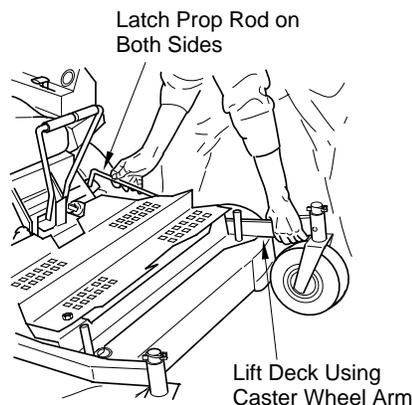

Figure 4-14 Tilting Cutter Deck
2. Unlatch the prop rod from one side of the cutter deck and raise the mower deck as shown in Figure 4-14. Install the prop rod in the bracket on the tractor.